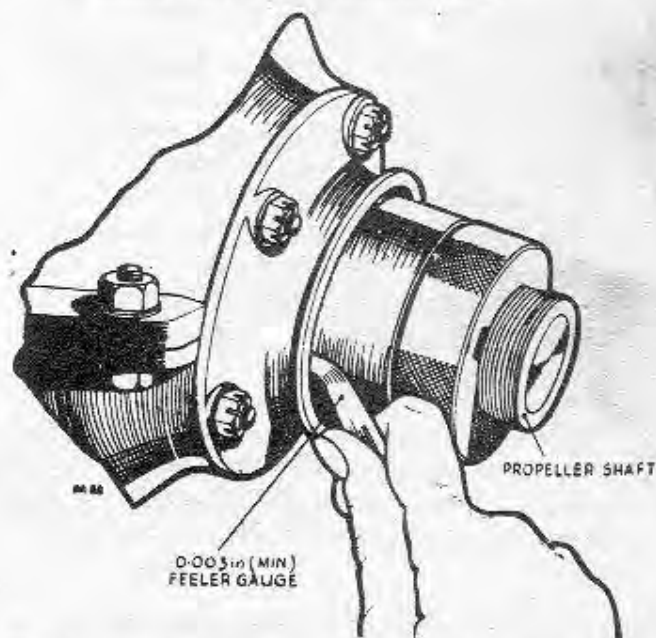

Fig. 3. Method of using front cover centralising gauge
- (1) Smear a thin film of jointing on the shim(s), and on the mating surfaces of the crankcase and the front cover.
- (2) Position the brass packing shim(s), the steel shim Part No. 1306-26, and the front cover, in that order, on the five studs, fit the five washers, and screw on the slotted nuts until a little more than finger-tight.
- (3) Position the centralising gauge T85843 on the crankshaft and use feeler gauges to measure the radial clearance between the gauge and the front cover as shown in fig. 3.
- (4) If necessary, move the cover within the limits of clearance in the stud holes, until the clearance is equal all the way round; that is, until the front cover is concentric with the crankshaft.
- (5) Tighten the nuts and fit split pins, Part No. 800-SP2.
- (6) Remove the centralising gauge.